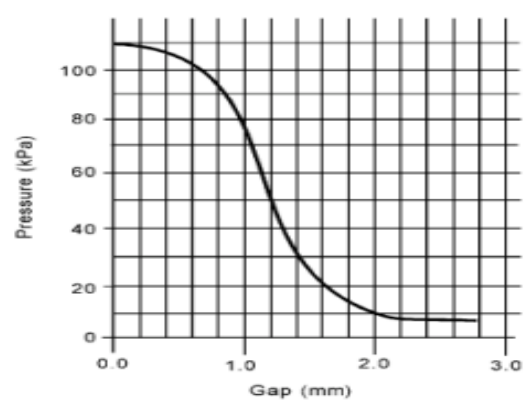

Fig Q4B
- 4B. A pneumatic proportional controller is designed such that x_1 is 5cms and x_2 is 2.5cms. The setpoint is 50 kPa and the effective areas of the bellows are 7 cm^2 . The nozzle / flapper system has a pressure/displacement characteristic as shown in FigQ4B. With no error, the output pressure is 60 kPa.